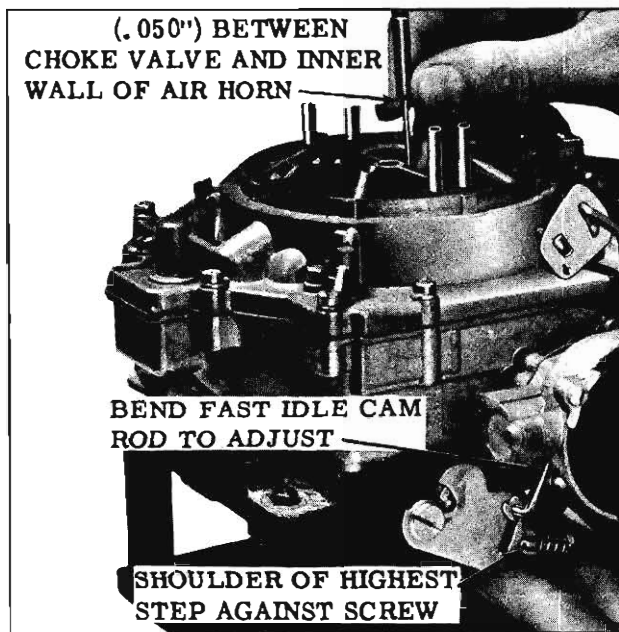

Fig. 4-25 Fast Idle Cam Rod Adjustment
2. With the shoulder of the highest step of the fast idle cam held against the fast idle screw, hold the intermediate choke lever in the extreme up position. The intermediate choke rod and the fast idle cam rod must be at the upper limit of travel in the slot to remove all travel. Check the clearance between the top edge of the choke valve and the dividing wall of the air horn. Check clearance with small end of gauge BT-68. Clearance should be $.053''$. (Fig. 4-25)